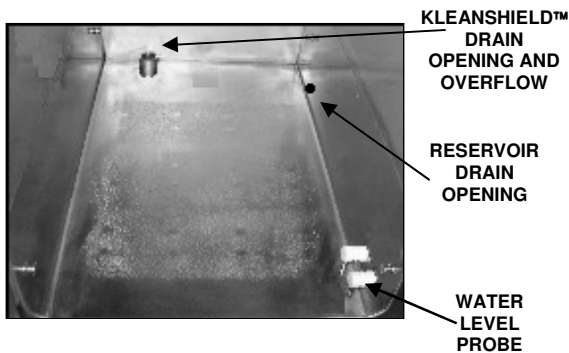

Figure 4-1 Inspecting Compartment drains (SteamChef 6.1 Shown)
- NOTE: The ON/OFF control works like the manual operation of the Timer model **EXCEPT** that a selector switch is used to turn the cooking function from Standby Heat (OFF) to the Cooking Mode (ON).
2. Make sure that the KleanShield™ and reservoir drains are clear (See Figure 4-1).